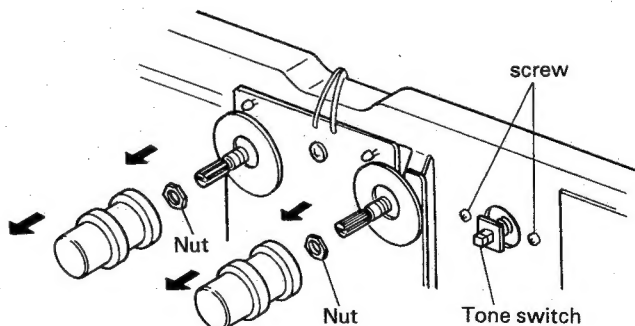

Fig. 13
3. Pull out the treble and bass knobs and remove their nuts (Fig. 13).
4. Remove the screws on both sides of the tone switch and remove the tone P.C. Board (Fig. 13).